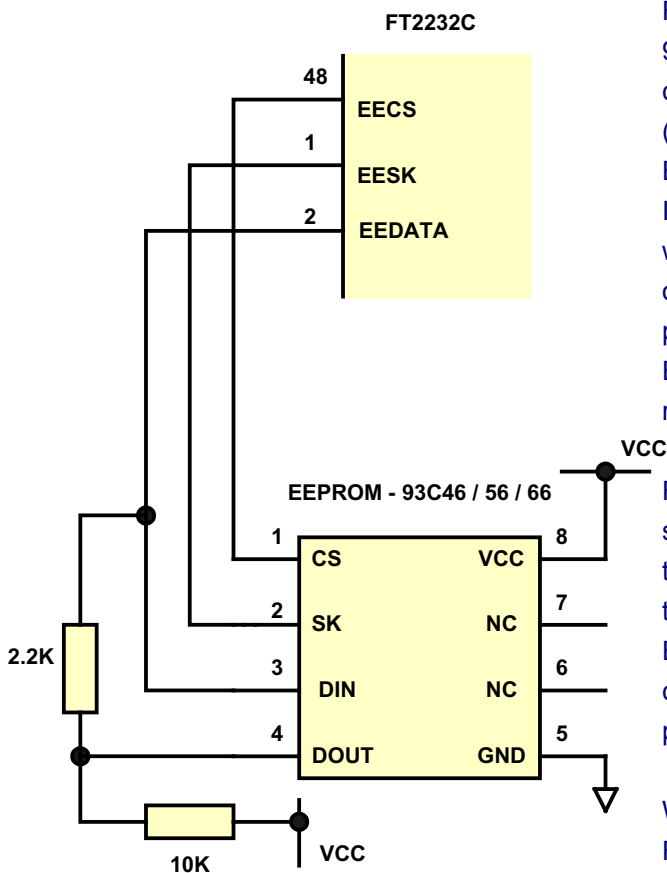

Figure 7
Figure 7 illustrates how to connect the FT2232C to the 93C46 (93C56 or 93C66) EEPROM. EECS (pin 48) is directly connected to the chip select (CS) pin of the EEPROM. EESK (pin 1) is directly connected to the clock (SK) pin of the EEPROM. EEDATA (pin 2) is directly connected to the Data In (Din) pin of the EEPROM. There is a potential condition whereby both the Data Output (Dout) of the EEPROM can drive out at the same time as the EEDATA pin of the FT2232C. To prevent potential data clash in this situation, the Dout of the EEPROM is connected to EEDATA of the FT2232C via a 2.2K resistor.